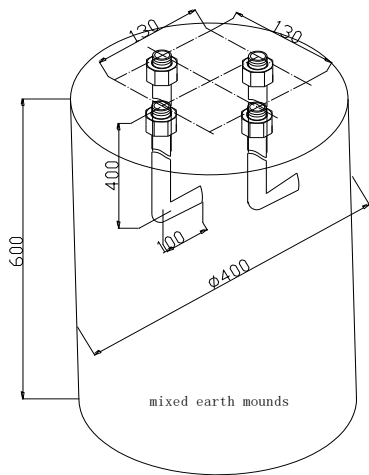

Figure1:manufacture of mixed earth mound
Figure 1 the fabrication of anchor, lasso and guy cable
5. Please refer to the national standard, or the European standard, or American standard or figure 1 in this manual